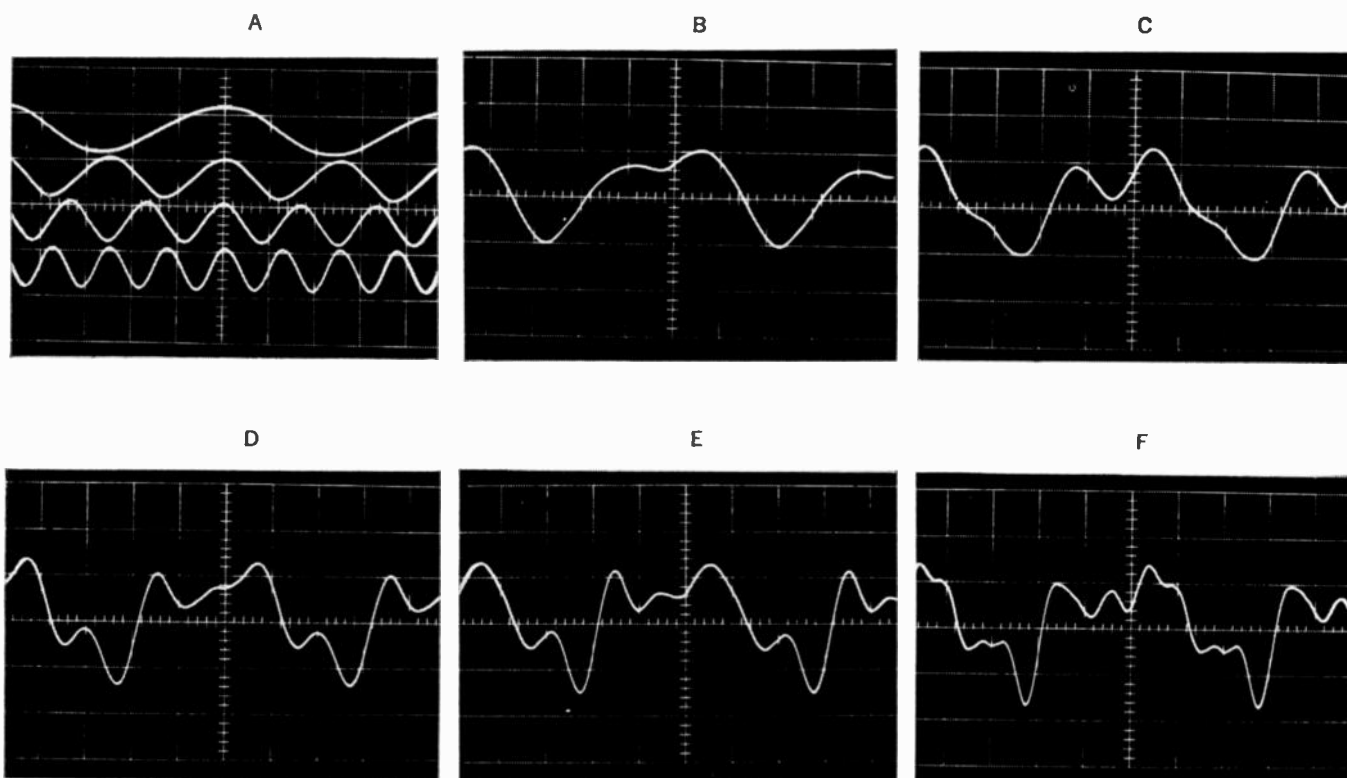
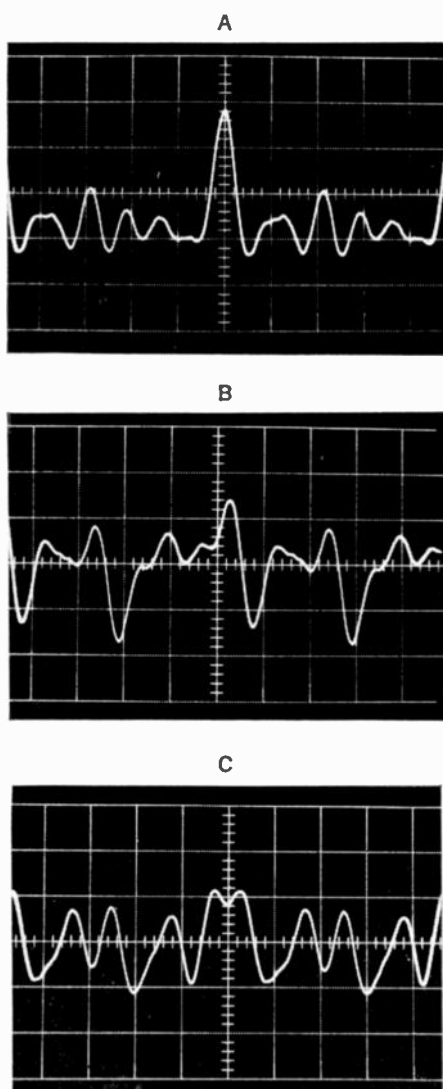

Fig. 2. The six waveforms shown demonstrate the variety which can be synthesized from a fundamental and five harmonics. See text for details.
Fig. 4. Changes in phase alone can give a substantial difference in the "looks" of these three harmonic-rich waveforms.
A closer look at the test signals used is informative. We find a substantial variety of waveforms, as observed on an oscilloscope, can be generated with the fundamental and five overtones available. The six waveforms shown in Fig. 2 demonstrate this variety. In (A) we see the fundamental and the 2nd, 3rd, and 4th harmonics all in phase as cosine waves. (B) shows the fundamental and second harmonic of equal amplitude but arbitrary phase. In (C) the 3rd harmonic has been added in equal amplitude but again in arbitrary phase. There are clear cut differences in these waveforms and equally obvious differences in quality of sound under any listening conditions. In (D), the 4th harmonic, and in (E), the 5th harmonic have been added. These figures do not look greatly different surprisingly enough. However, they very clearly sound different. Finally in (F), the 7th harmonic is added, again clearly changing the waveform
The harmonic-rich tone was generated in three forms as shown in Fig. 4. Harmonic-rich tone (A) consists of cosine waves in phase at zero to give as large a peak as possible compared to the average amplitude of the waveform. Harmonic-rich tone (B) was adjusted, by changing phases alone in signal (A), to give a peaked but more symmetric looking wave. Finally more phase adjustments were used to give a smoother looking wave with a lower peak-to-average waveform shown as harmonic-rich tone
Low-level earphone tests were carried out at a sound pressure level (SPL) of 60 to 65 dB. Absolute agreement was found with the earlier statement of Helmholtz (as modified). The harmonic-rich waveforms shown in Fig. 4 are completely indistinguishable. Phase has no effect whatsoever on the subjective quality of the tone. Even more amazing we find the odd-harmonic square tone and odd-harmonic smooth tone are also indistinguishable. While it seems amazing that such different looking waveforms should sound identical it is even as surprising that the waveforms in (D) and (E) of Fig. 2, which are very similar in looks, are quite different in sound. Fortunately this result is in complete agreement with other researchers, including Helmholtz.